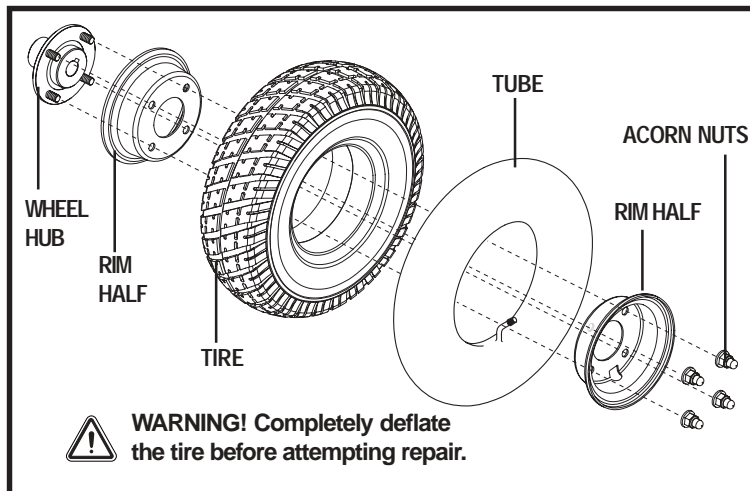

Figure 30. Jazzy Select Series Drive Wheel Disassembled
8. Remove the acorn nuts that fasten the two rim halves together. See figure 30.
12. Reinstall the drive wheel nut and washer onto the axle and tighten. See figure 30.